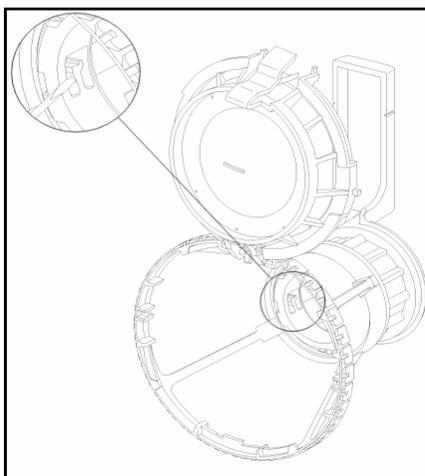

Figure 5-34: Combination Filter
2. Place a screwdriver on the retaining clip spring, Fig. 5-34, and press against it.